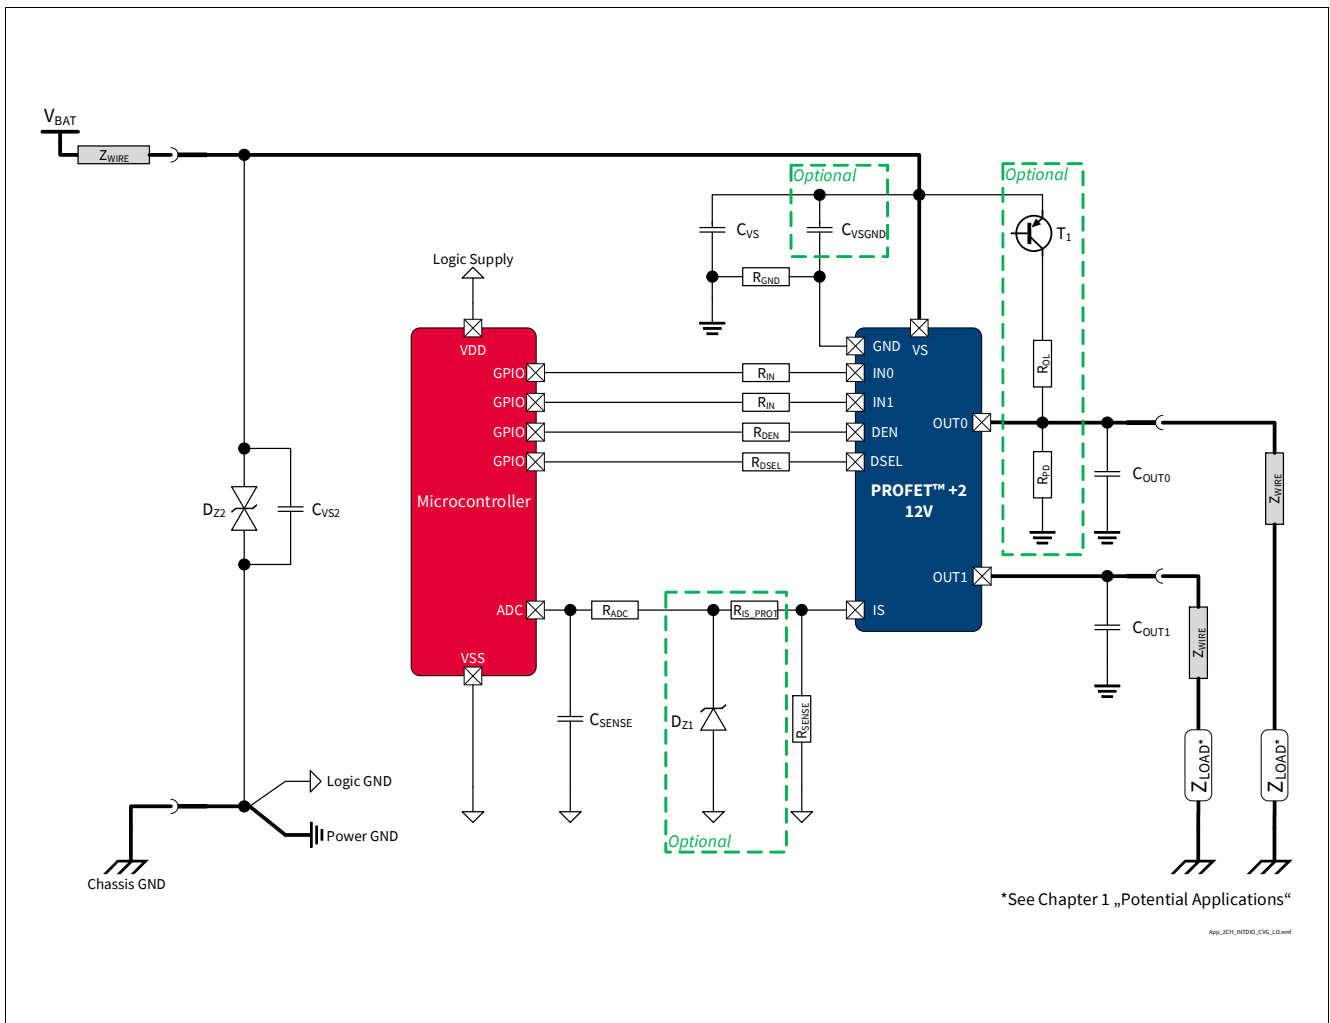

Figure 43 BTS7080-2EPA Application Diagram
1.05, 2019-10-15	<p>P_8.7.7.1, P_8.7.7.7, P_8.7.7.8 updated (added in Note or Test Condition: link to Figure 25)</p> <p>P_7.5.7.4, P_7.5.7.5 updated (added in Note or Test Condition: DEN = “low”; link to Figure 19)</p> <p>P_7.5.7.12 updated (added in Note or Test Condition: see Figure 21; deleted unnecessary space in Symbol: $dV_{OUT} / dt \rightarrow dV_{OUT} / dt$)</p> <p>P_8.7.7.6 updated (added in Note or Test Condition: see Figure 26)</p> <p>P_9.7.7.1 updated (added in Note or Test Condition: see Figure 34)</p> <p>P_9.7.7.5 updated (Min./Typ./Max.: -45%/1800/+45% → -28.0%/1750/+28.0%)</p> <p>P_9.7.7.6 updated (Min./Typ./Max.: -40%/1800/+40% → -25.5%/1750/+25.5%)</p> <p>P_9.7.7.8 updated (Min./Typ./Max.: -35%/1800/+35% → -23.5%/1750/+23.5%)</p> <p>P_9.7.7.12 updated (Min./Typ./Max.: -26%/1800/+26% → -19.0%/1750/+19.0%)</p> <p>P_9.7.7.15 updated (Min./Typ./Max.: -11%/1800/+11% → -9.8%/1805/+9.8%)</p> <p>P_9.7.7.17 updated (Min./Typ./Max.: -6%/1800/+6% → -6.0%/1805/+6.0%)</p> <p>P_9.7.7.19 updated (Min./Typ./Max.: -5%/1800/+5% → -4.5%/1805/+4.5%)</p> <p>P_7.5.7.11 updated (added in Note or Test Condition: see Figure 19)</p> <p>Figure 1, Figure 43 updated</p> <p>Chapter 1 updated (or LED equivalent → or equivalent electronic loads (e.g. LED modules))</p> <p>P_4.3.0.7 added</p> <p>Table 24 updated</p> <p>Chapter 5.1 updated (added: see Chapter 10 for the complete application setup overview)</p>